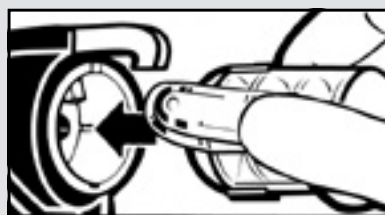

Figure 4
5. Select and insert firmly an Anti-Crossover Nozzle into the Insta-Flo™ dispenser. Be sure the dispenser clips the nozzle firmly in place. (See Figure 4)